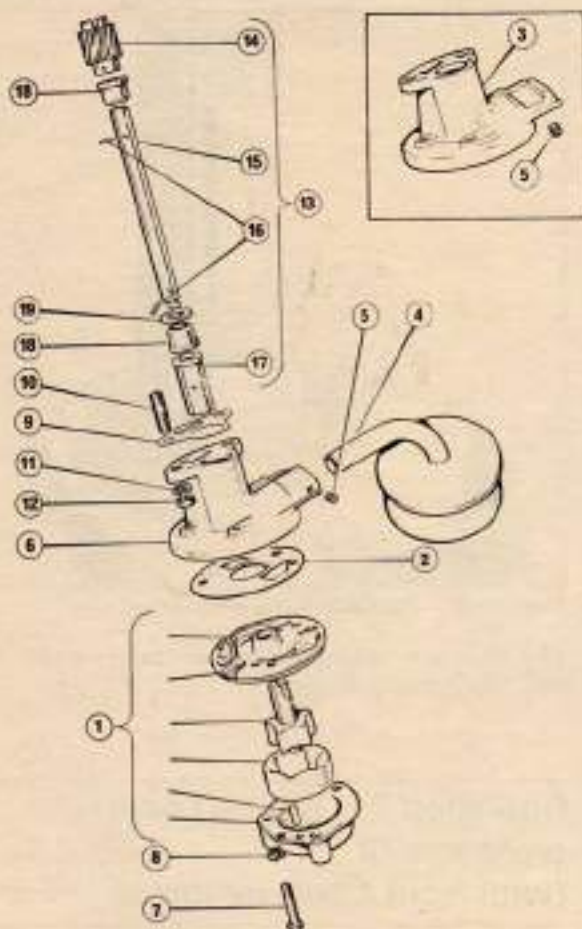

Figure 4 Oil pump – exploded
- 5 Unscrew two nuts, complete with lockwashers and remove oil pump assembly, including filter, from the cylinder block (**Figure 4**).